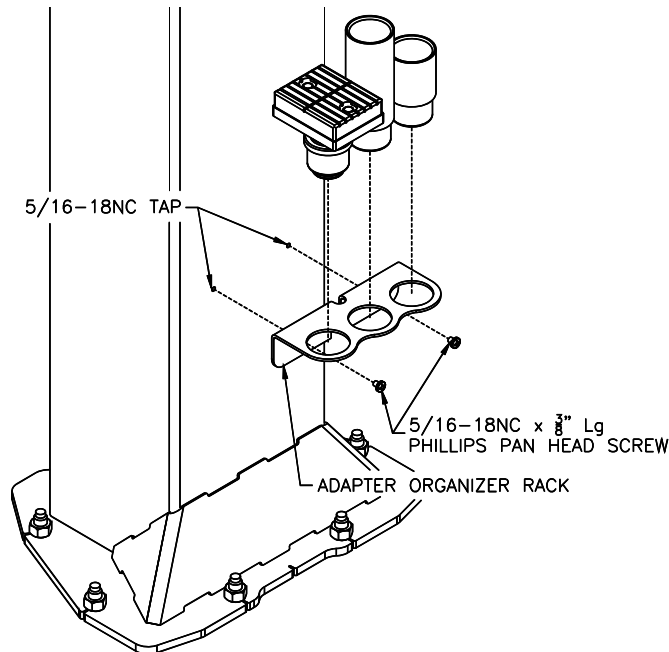

Fig 22-Adapter Rack Installation
- 64) Locate the two pre-drilled holes on the back of each column 19" up from the top of the base plate and tap 5/16-18. Center the adapter rack and attach with 5/16-18NC Phillips Pan Head Screws supplied, **Fig. 22**.